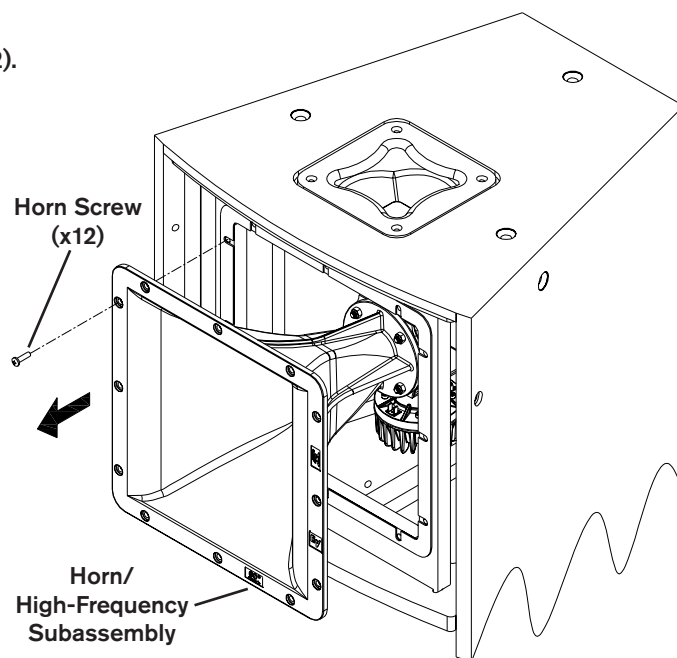

Figure 3: Removing the Horn from the Enclosure
2. Remove the (12) screws that attach the horn to the enclosure, and disconnect the wires that attach the ND2 to the input panel (Figure 3). The jumper that is between both ND2's can remain connected.
4. Reconnect the wires that attach the ND2 to the input panel (reverse of Figure 3). The yellow wire corresponds to the positive terminal, and the yellow and black wire corresponds to the negative terminal. Reattach the horn to the enclosure using the (12) screws.